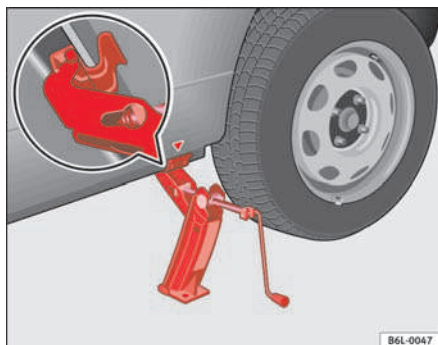

Fig. 135 Fitting the jack
- Align the jack so that the arm of the jack fits around the rib under the door sill and the movable base plate of the jack is flat on the ground ⇒ fig. 135.